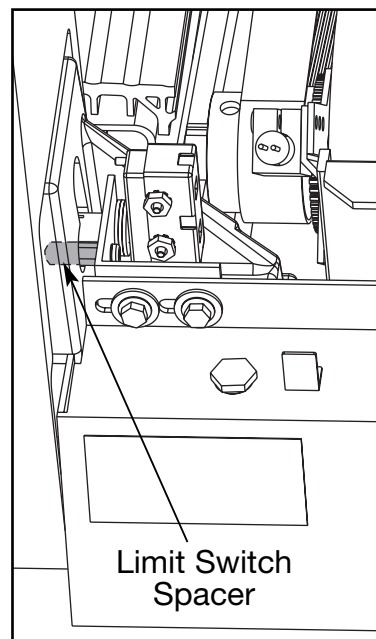

Figure 13
B. Place the elevation limit switch assemblies in position. Be sure the gold limit switch spacer is flush with the side wall of the elevation gear rack for correct gap width. See Figure 13.